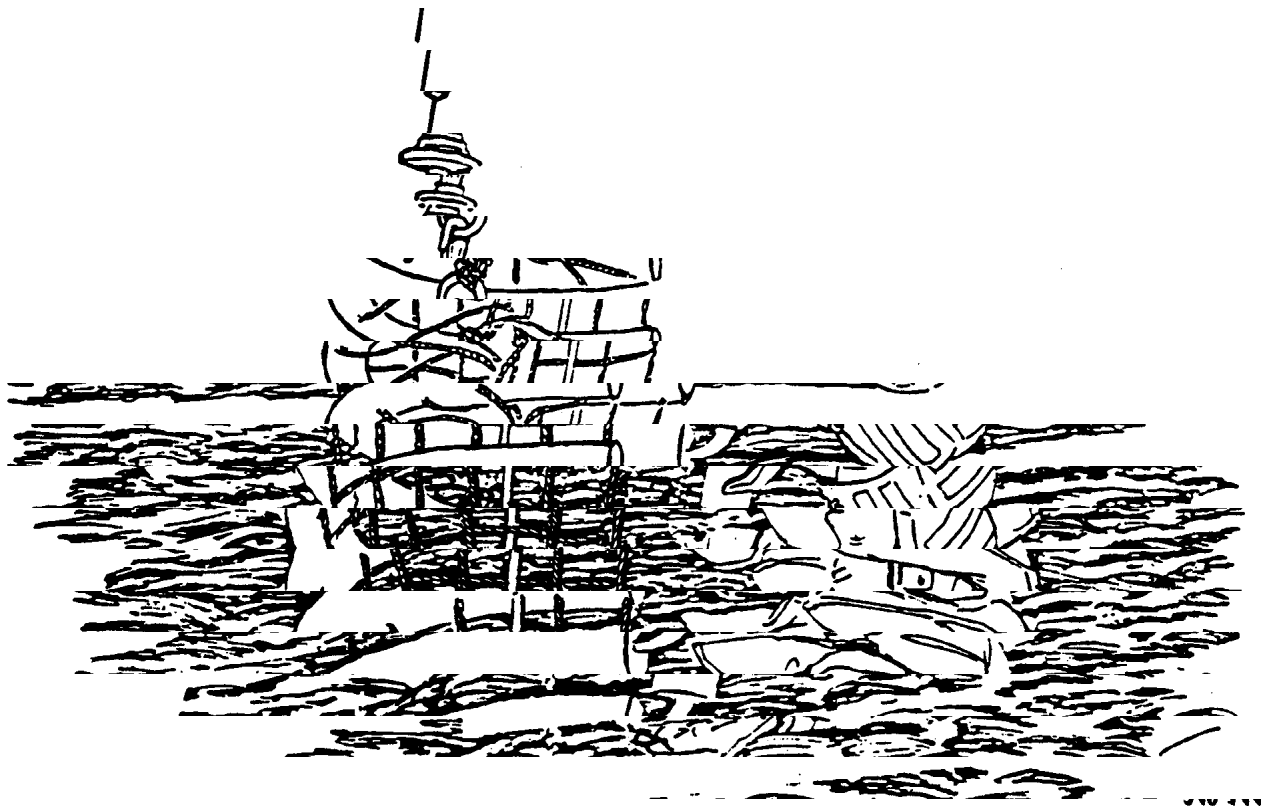

Figure 5-36.—Survivor entering the rescue net.
1. When the net enters the water, swim to the net and position the net with its opening directly in front of you. Grasp each of the lower support rib floats (fig. 5-36).